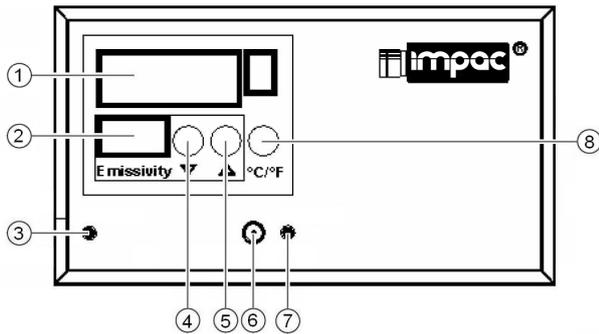
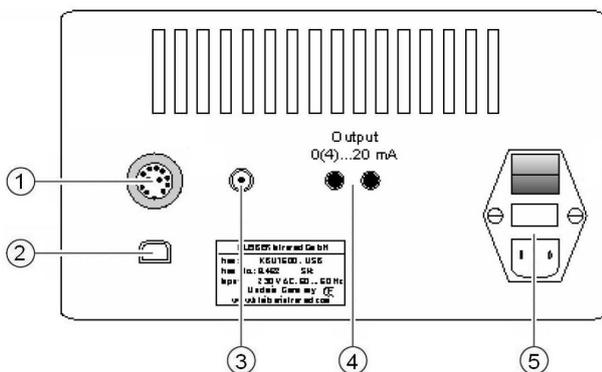

Figure 7: Front view KBU 1600-USB
Figure 8: Rear view KBU 1600-USB
Controls and indicators are located on the front and rear side of the bench unit. For the meaning of individual elements refer to legend Figure 7 and Figure 8, for operation of the bench unit see Operation with bench unit (section 5.5) at page 10.
After starting up the measuring station the actual temperature and adjusted emissivity will be displayed (see Figure 7).
4. Connect the pyrometer and bench unit with the 12-pin cable (see Figure 6 and Figure 8).
5. Connect the pyrometer and bench unit with the BNC cable (see Figure 6 and Figure 8).
7. Connect the bench unit with the provided power supply cable with a normal 230 V power outlet. Depending on the voltage of your country an optional power supply of 115 V is also possible (see Figure 8).
8. The USB cable will be connected between the socket on the back of the bench unit (see Figure 8) and a not used USB interface on your PC (max. cable length 5 m!).